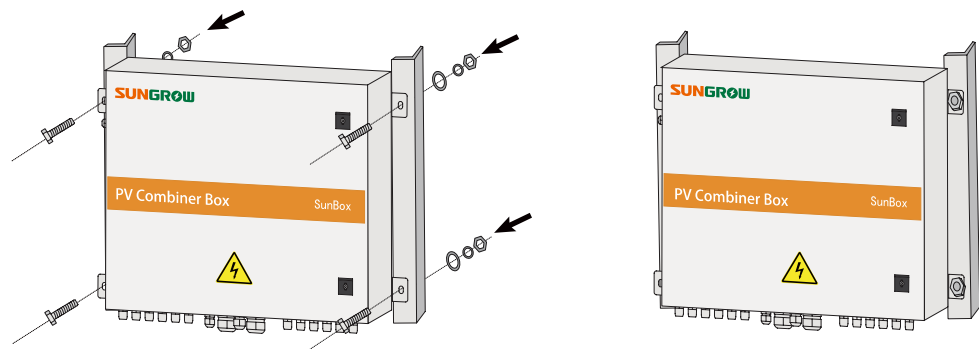

Fig 4-3 Installation guide
2. Install PVS by using hexagon bolts and hexagon nuts as described in Fig 4-3. From left to right, they are: bolts, mounting ears, brackets, washers, spring washers, nuts. Tighten nuts to install the PVS onto brackets firmly (Tightening torque: 18Nm).